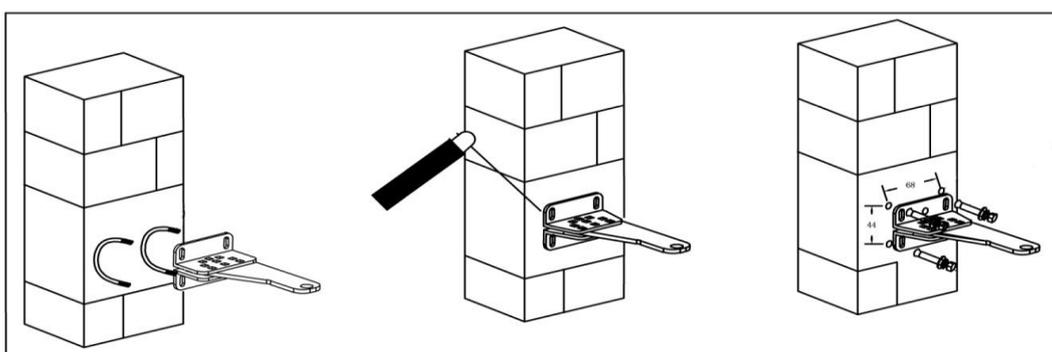

Figure 5
2. Construction Drill and Weld, Figure 5 middle:
3. Precast U Bolts, Figure 5 left: